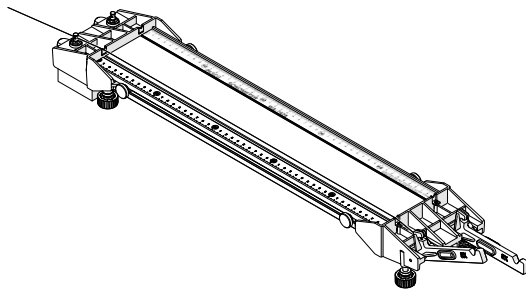

Figure 2. String pulled through the tuning peg with the tensioning lever at the maximum position.
3. Insert the string through the tuning peg hole. Pull through until the lever arm tilts at its maximum position (Figure 2).